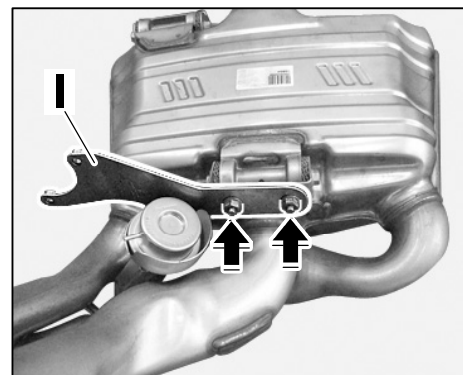

Figure 23
- 7.2 Remove support strut from the original rear muffler and use new nuts ⇒ *Figure 23* -arrows- to secure it to the new ⇒ *Figure 23* -I- rear silencer.